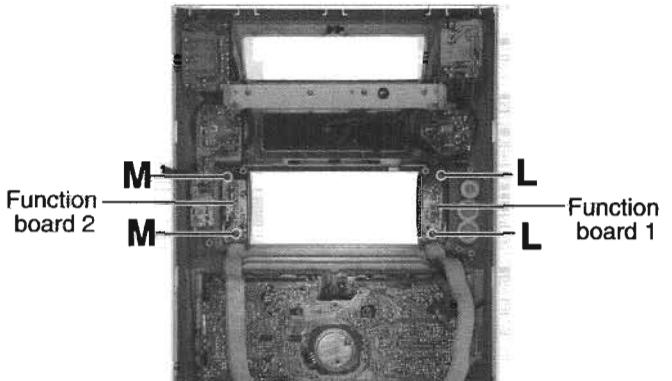

Fig.17
■ Removing the boards in the front panel assembly (See Fig.17 to 18)
— Function board1 (See Fig.17) —
— Function board2 (See Fig.17) —